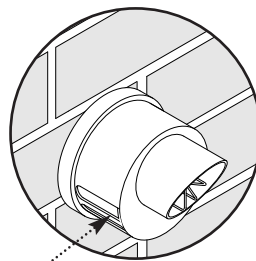

Fig. 42
12. Ensure that the terminal is positioned with the slots to the bottom (Fig. 42).